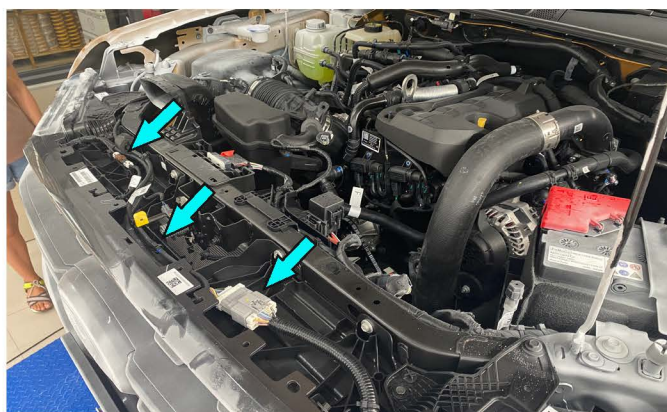

Fig.3
3. Disconnect OE wiring and camera washer wire connectors (fig.3).